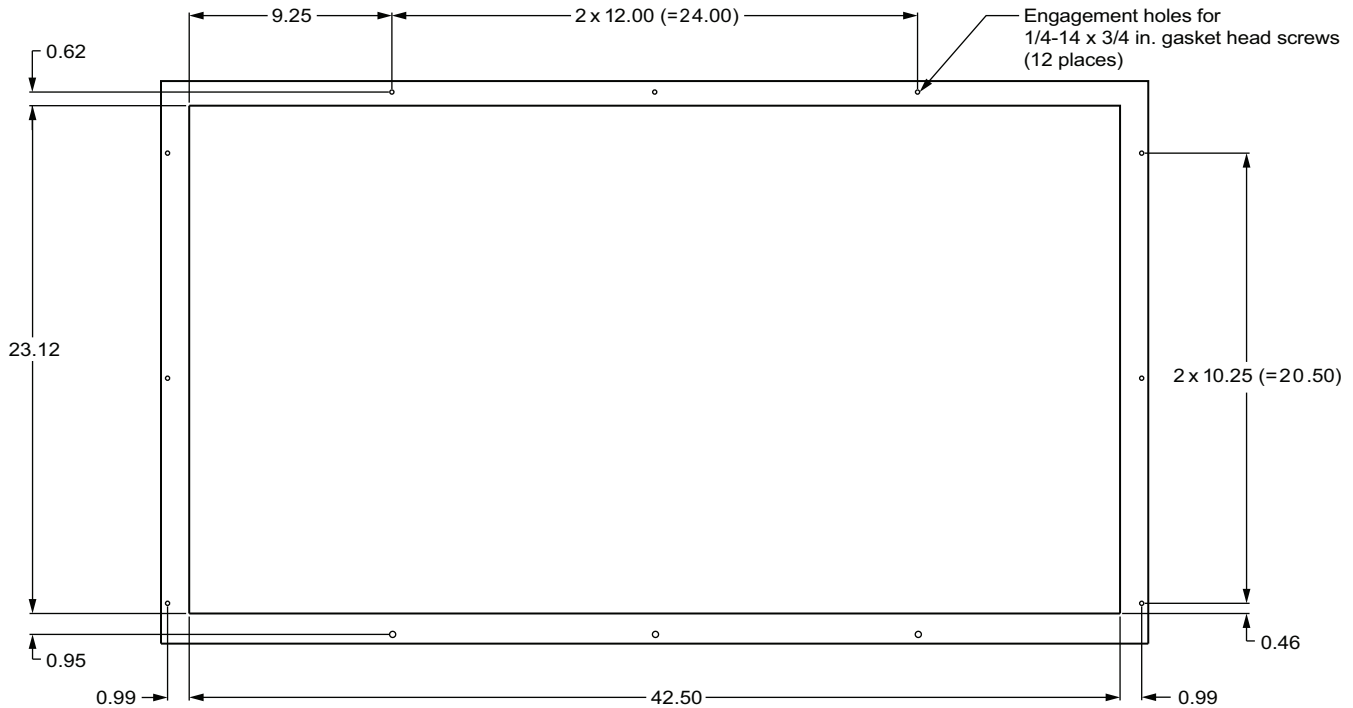

Fig. 15 – Horizontal Discharge Mounting Opening
size begin at least 5 ft away from the back of the outside air hood. Provide a 42.5 in. W x 23.2 in. H opening in the side of the return air duct, as shown in Fig. 15.
2. Provide engagement holes (12) for 1/4-14 x 3/4 in. gasket head screws (AL31AZ308) around the opening as shown in Fig. 15.